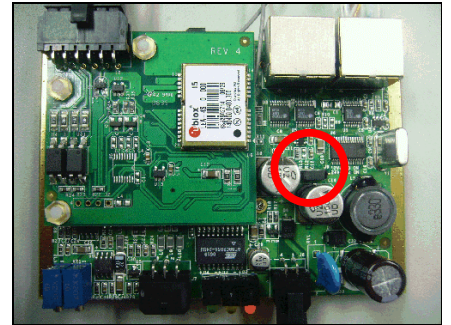

Figure 1
1. Select the power input jumper(factory setting is 12V) as In the Figure1. (If needed, please disassemble the screws of LGG and reset the jumper)